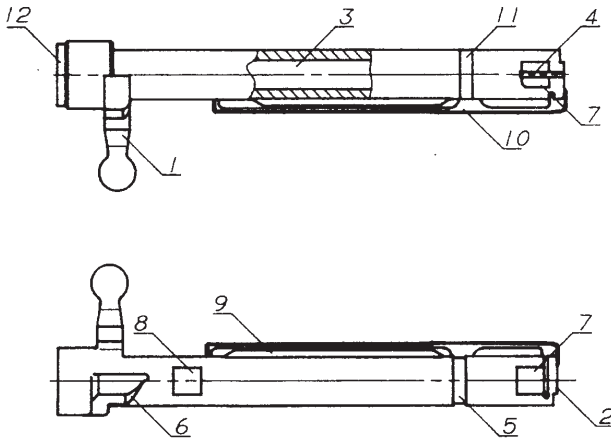

Fig. 4 – Bolt
7. Functions of the bolt (Fig. 4) are as follows: pushing the round into the cartridge chamber, closing the barrel bore, firing the round, extracting the case.
- 2) Remove the magazine from the receiver by depressing the magazine release button on the right hand side of the receiver and pulling the magazine down and away from the receiver. See Fig 4.